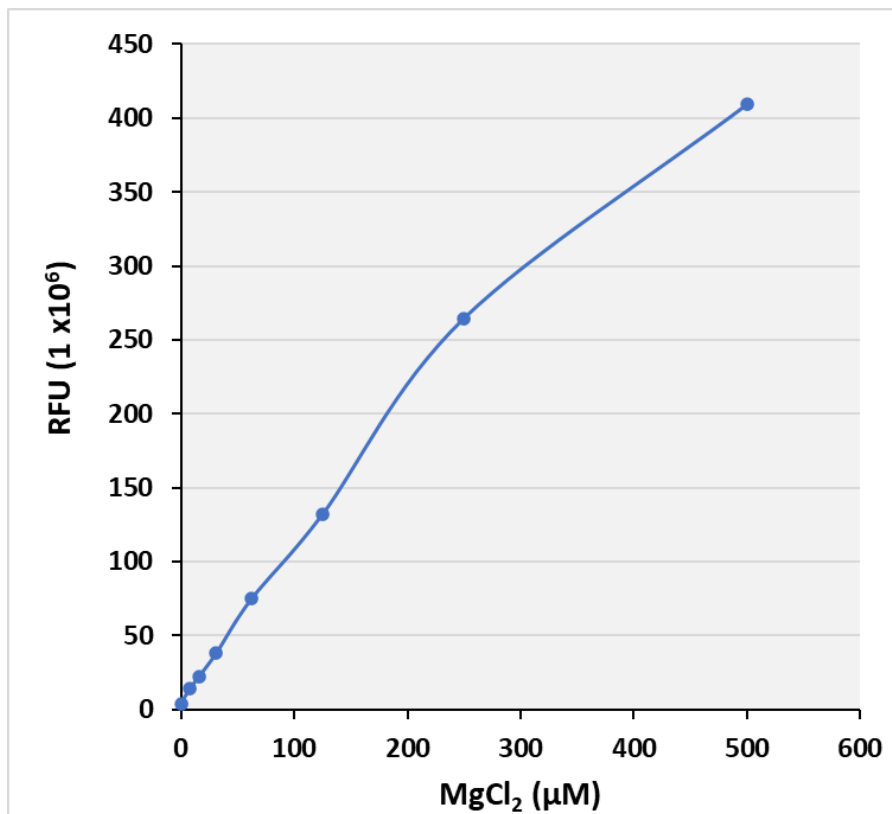

Figure 2. Example MgCl₂ Standard Curve.
- Graph the standard curve (see the example in Figure 2).